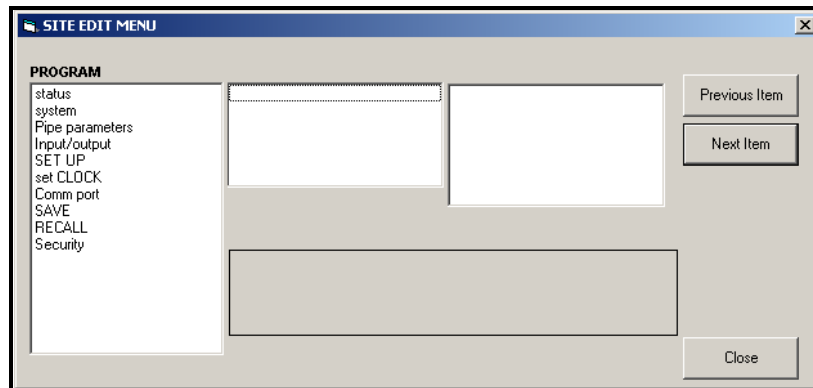

Figure C-20: Site Edit Menu Window
5. To open a particular menu, double-click on that menu on the tree. For example, if you double-click on the Site Edit Menu, a window opens similar to Figure C-20 below.